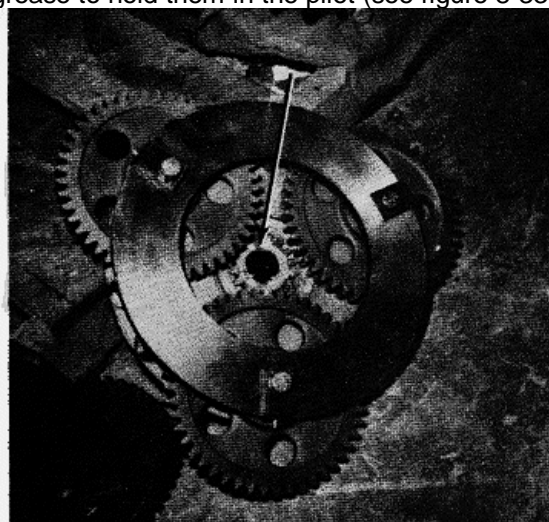

FIGURE 8-33.
n. Insert thrust washer first, then needle thrust bearing into the machined pilot of the interlocked sun gear of the inner planetary assembly using a heavy machine grease to hold them in the pilot (see figure 8-33).